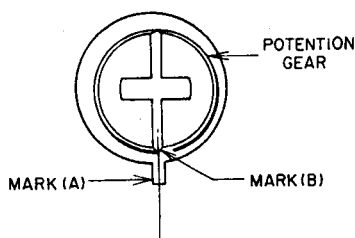

Fig. 4-14
- 1) Attach the position potentiometer to the capstan holder and attach the potention gear. Attach the capstan holder to the motor block and tighten the securing screws. Align the mark on the potention gear with the groove in the motor chassis as shown in Fig. 4-14.